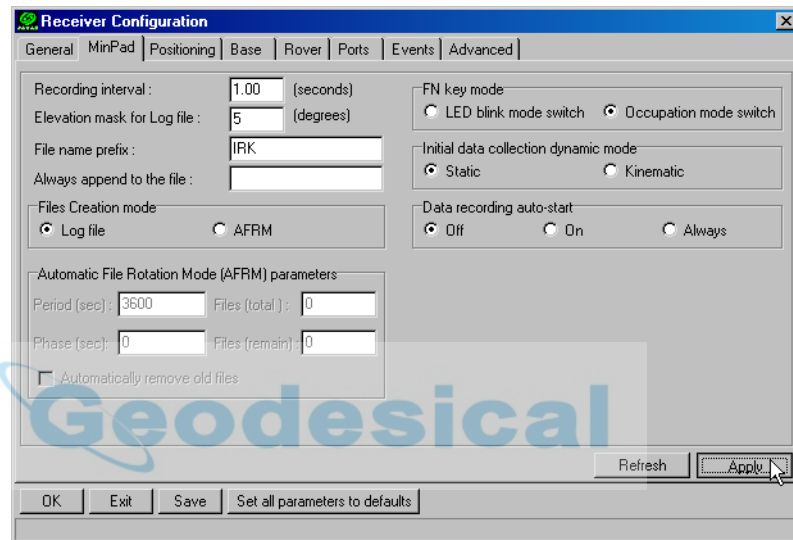

Figure 3-8. Rover MinPad Configuration
2. Using PCView, click **Configuration->Receiver->MinPad**, and configure the Rover with the following parameters, then click **Apply** (Figure 3-8):
2. Using PCView, click **Configuration->Receiver->MinPad**, and configure the Rover with the following parameters, then click **Apply** (Figure 3-8 on page 3-11):